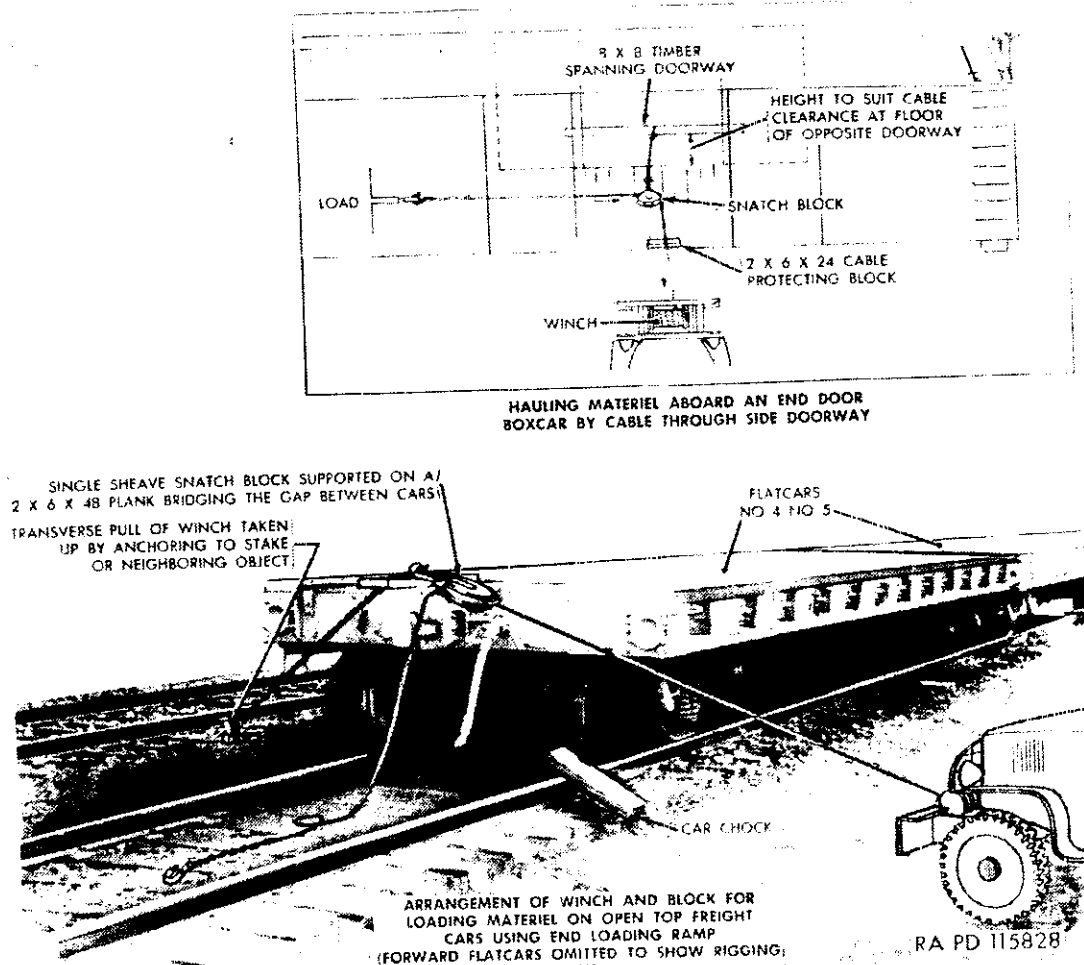

Figure 107. Method of powering the towing cable.
- (f) For powering the towing cable (fig. 107), a vehicle with winch is spotted at *right angles* to the train, located at about the third or fourth flatcar to facilitate signaling and because of cable length limits. A single-sheave snatch block located between cars on the train center line will provide the necessary *lateral* pull. Vehicles passing this point can be towed by a vehicle on the ground with personnel guiding its passage. A long tow cable from the towing vehicle will lessen the tendency of the vehicle to stray from the center line of the train.
*Note.*—The snatch block fastening chain must be lashed to an adjacent solidly fixed object to offset the cross pull of the powered winch (see fig. 107). Snatch block movement is allowed for low front winches and high rear (wrecker) winches.
- (b) Drop-end gondola cars may be loaded exactly as described for flatcars ((1) above). Height of fixed sides is immaterial. Vehicles may progress through a gondola car by passing over the two inwardly-dropped ends and over spanning platforms. Vehicles selected to remain in a gondola car are first moved to the closed end of the car, then spread out for blocking after the remaining end is closed and latched.
- (a) End-door type boxcars are spotted with the door ends towards the ramp and loaded as described for flatcars ((1) above) except that loading must be accomplished by pushing the vehicle or towing by cable and block through the side door (fig. 107).